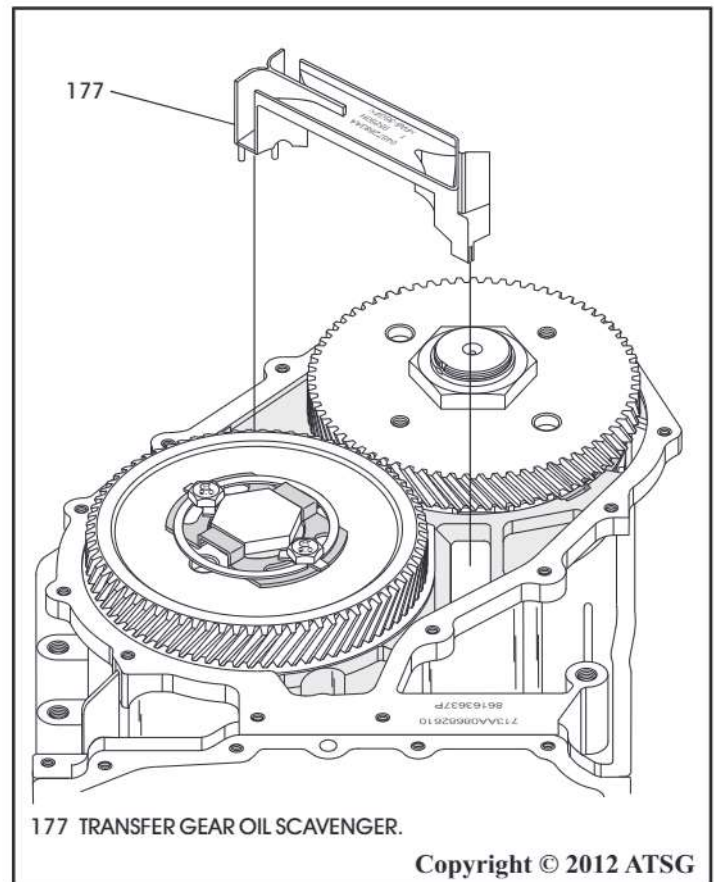

Figure 72
61. Remove transfer gear oil scavenger, as shown in Figure 72.